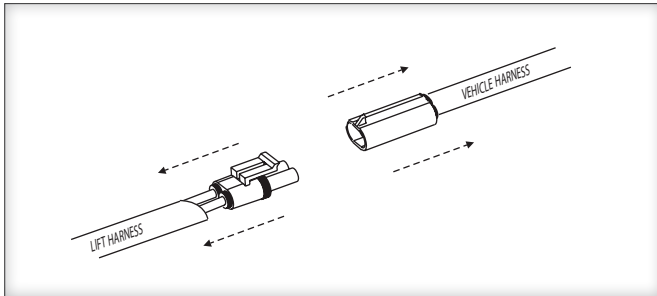

Figure 8-1
1. Unplug Power to the Lift. [Figure 8-1]